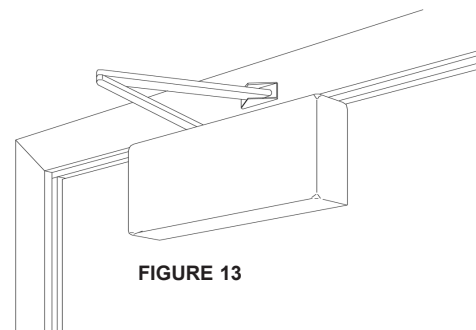

FIGURE 13
1. Position closer reinforcement on header where the door closer shoe is to be mounted (Fig. 13 & 14).